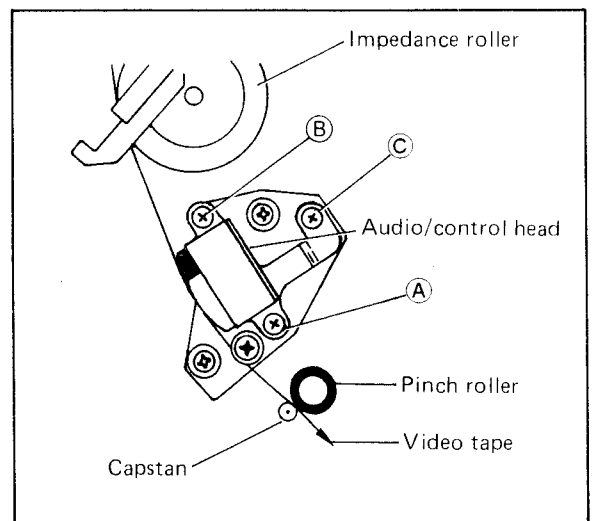

Fig. 5-19
1. Remove three screws (A, B, C) as shown in Fig. 5-19.
4. Install the new head assembly in the correct position by using three screws (A, B, C) as shown in Fig. 5-19.